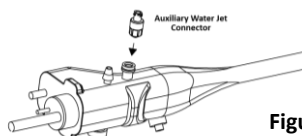

Figure 2
17. Attach the Auxiliary Water Connector to the port of auxiliary water by screwing it onto the port (See Figure 2). When attaching the Auxiliary Water Connector to the port, take care to ensure that the Auxiliary Water Connector is aligned to the port and avoid excessive tightening. Misalignment or excessive tightening of the Auxiliary Water Connector could lead to the possibility of leakage. Once the Auxiliary Water Connector is attached to the auxiliary port of the endoscope, attach the irrigation tubing to the Auxiliary Water Connector.